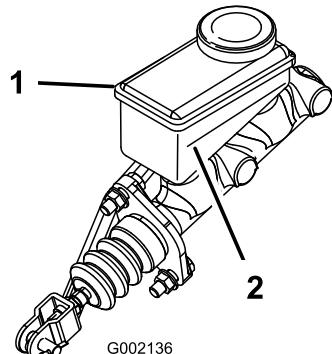

Figure 52
- Look at the outline of the fluid level at the side of the reservoir (Figure 52).
- Add DOT 3 brake fluid to the reservoir until the fluid level is above the Minimum line (Figure 52).